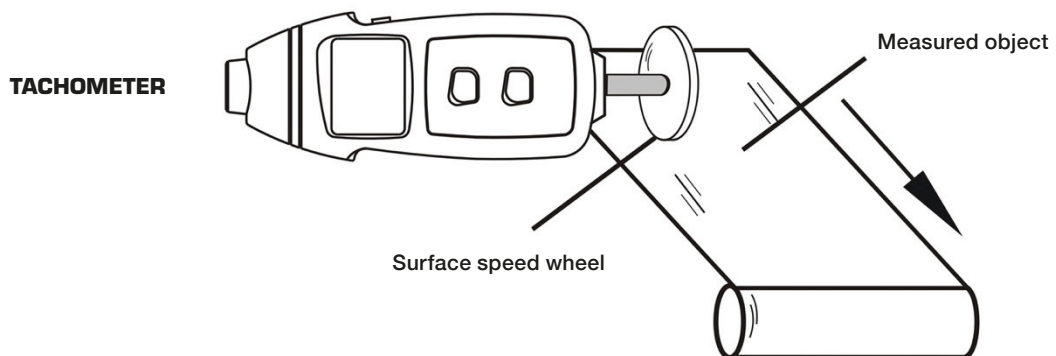

Fig. 9.
3. [Contact Surface Speed] Surface speed measurement (see Fig. 9).